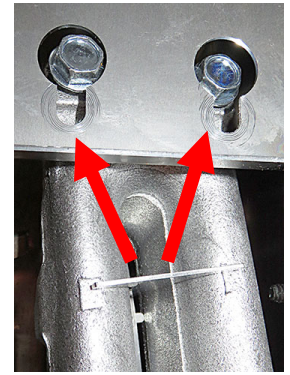

Figure 3
3. Remove the burners by sliding the burners up and push towards the rear of the fryer, through the keyholes (see Figure 3).